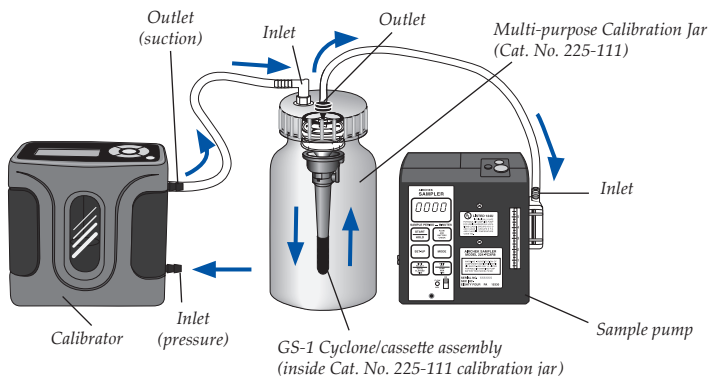

Figure 3.
Option 1: Using a Calibration Jar (Figure 3)
2. Place cyclone/cassette assembly into an airtight calibration jar that contains an inlet and outlet (Cat. No. 225-111; Figure 3).